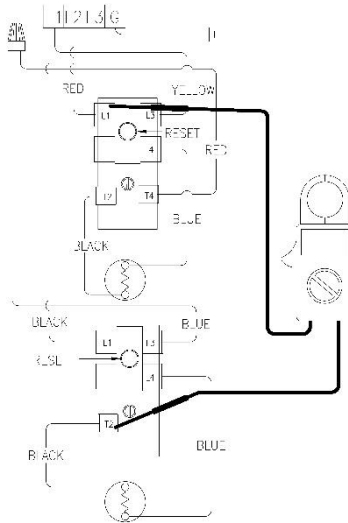

Figure 21
7. Check voltage across terminal L1 of upper thermostat & T2 of lower thermostat. (see Figure 21).
4. See Figure 21 above. Check across terminal L1 of upper thermostat & T2 of lower thermostat.